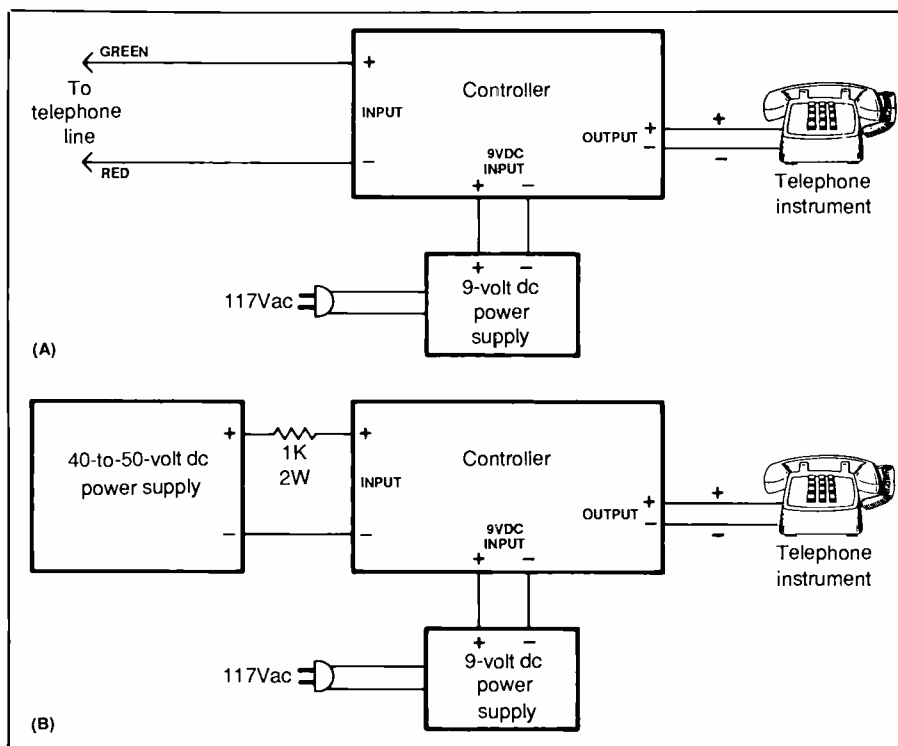

Fig. 6. Test setup using the telephone line (A) and a dc power supply to simulate telephone line (B).
Refer to Fig. 6 for details on the
Connect the Monitor between your telephone instrument and the telephone line as illustrated in the appropriate drawing in Fig. 6. Be sure to observe proper polarity throughout. Plug the project's power supply into an ac outlet and measure the voltage across *C1*. This should be be-
Final checkout is done as follows: With the 10-Minute Call Monitor connected to a telephone line as shown in Fig. 6(A) and power applied to the circuit from the power supply, lift the handset. You should hear a dialtone and the LED should be on. Now dial a friend and hold a conversation